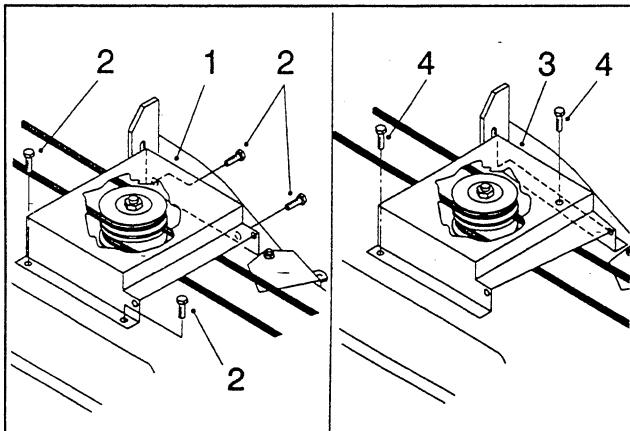

Figure 7
2. Install the mower belt cover (Fig. 7).
- a. **42" belt cover**—Mount the mower belt cover loosely on the outside of the belt-cover bracket and the top of the mower using four  $1/4" \times 1/2"$  thread-forming hex-head flange screws (Fig. 7). **Do not tighten the screws** because an adjustment must be made later.
using two  $1/4" \times 1/2"$  thread-forming hex-head flange screws (Fig. 7). **Do not tighten the screws** because an adjustment must be made later.
4. Close the blower cover completely. While holding the blower cover down, tighten the mower belt-cover screws (Fig. 7).